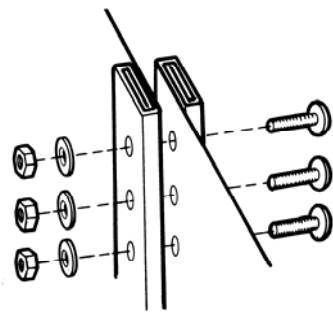

Figure 3.7
outside the pool (figures 3.7 and 3.8). To assure stability during installation and avoid damaging the wall, use tape to temporarily attach the pool to the posts. It is very important that the pool is round. The pool diameter must be the
- Bolt heads must be inside and nuts and washers outside (figures 3.7).
- File off any burrs and cover all bolt heads with a heavy fabric tape before you put in the vinyl liner. (figure 3.7 inside)